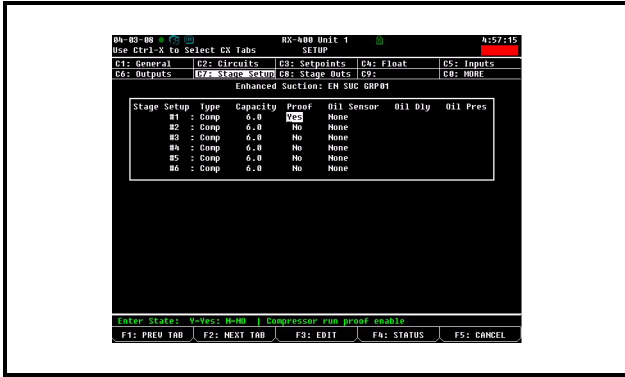

Figure 8-9 - Analog Sensor Control Compressor Proofing - Inputs Screen
5. Press **Ctrl** + **7** to navigate to the Stage Setup tab (**Figure 8-9**).